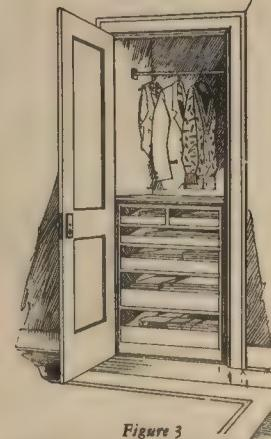

Figure 3
Lower Section—Four large trays and two narrow ones are provided for Lower Section. All parts are machined at factory ready for quick assembling. Tray slide frames are built-up complete. Lower Section can be used independent of Upper Section as shown in Figure 3. When used as in Figure 3, the counter top will fit a closet $3'6''$ wide as it is furnished longer than needed for ordinary use so it will cover space on either side of cabinet behind casing. Carton packed, 95 lbs.
- 4.—If base section is being used alone in closet (see Figure 3 on page 19) put cabinet in closet and attach Top No. 4. Turn dadoes (slots) down as explained above. Top is furnished with sufficient projection to fit a closet $3'6''$ wide (or less) although the door opening would be only $2'6''$.